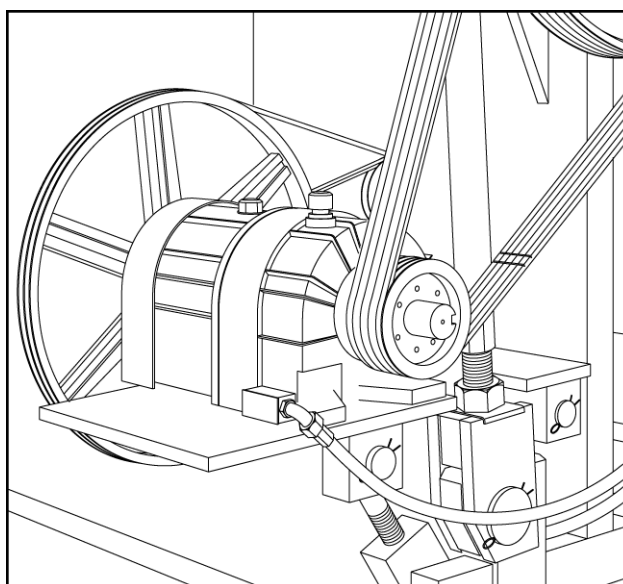

Figure 11.1
11.2.2 Bescodyne Clutch/Brake Unit (figure 11.1)